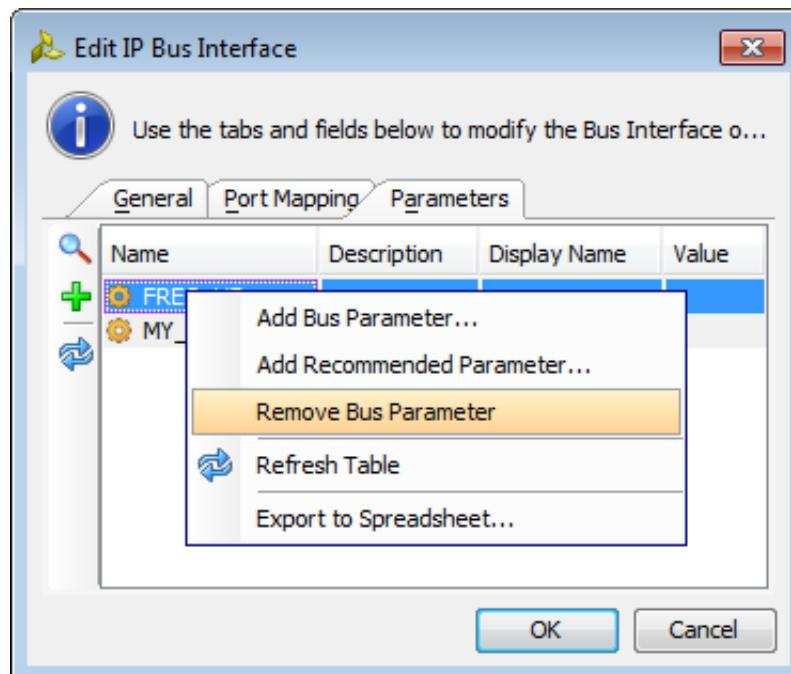

Figure 8-67: Edit IP Bus Interface: Remove Bus Parameter
4. To remove a parameter from the list, select the parameter, right-click and select **Remove Bus Parameter**, (Figure 8-67).